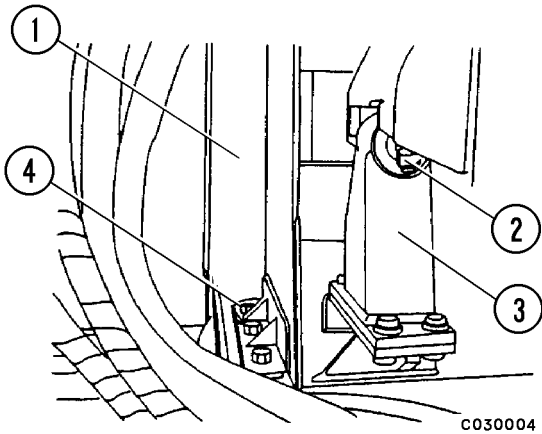

FIGURE 3-3. RADIATOR HOOD
9. Remove six (6) mounting capscrews (4, Figure 3-3) at the base of the radiator hood and remove. Tag the shims for proper placement during assembly.